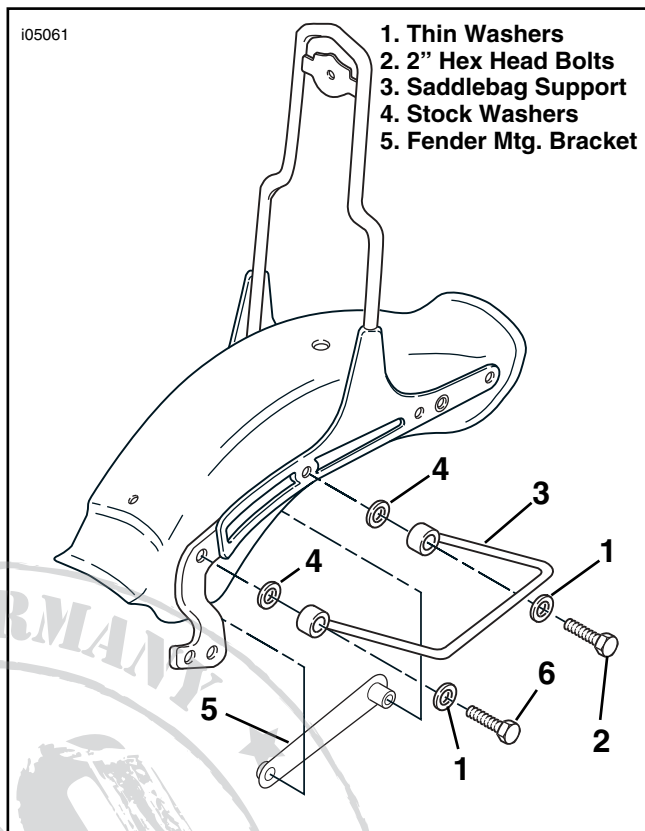

Figure 10. Saddlebag Support Installation, 2003 and Later FXST, FXSTB, FXSTS
2. See Figure 10. The saddlebag supports (3) are side-specific.